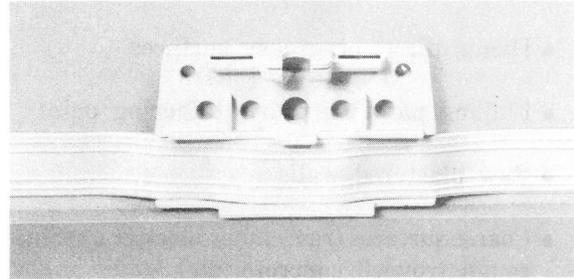
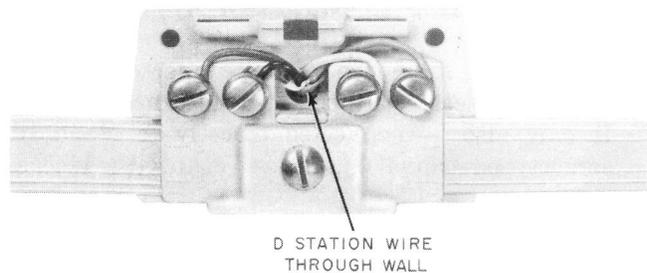

Fig. 5—Wire in Channel on Base of No. 717 Terminal
Fig. 6—Terminating Wire on No. 717 Terminal
- (1) Remove snap-on cover and four screw terminal block.
- (2) Select desired location, remove paper liner from back of terminal base, and press base firmly against mounting surface.
- (3) Place wire in channel on terminal base and press firmly (Fig. 5). Placement of wire in channel must be accurate to eliminate possible short circuit or crossed wires.
- (4) Place terminal block over wire channel. Align block with guide pins in base for proper seating. Exert sufficient pressure with screwdriver so mounting screw will pierce wire insulation covering screw hole. Secure block to base.
- (5) Terminate D station wire or cord connectors on screw terminals (Fig. 6) and replace snap-on cover.
- (6) When wire run ends in a No. 717 terminal, extend wire approximately 2 inches beyond